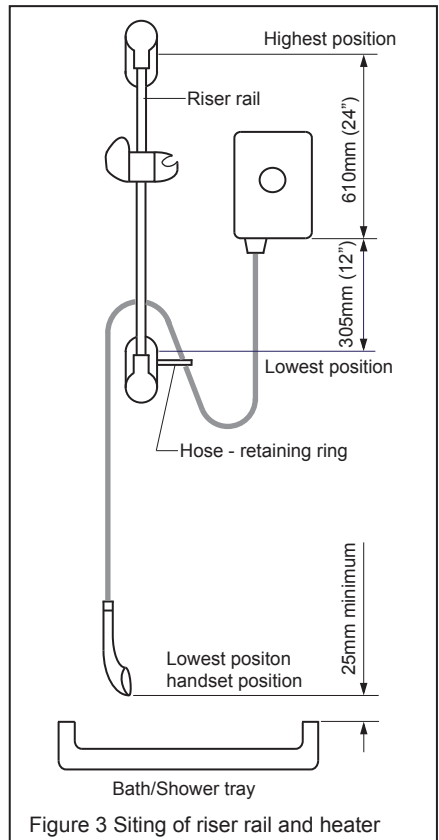

Figure 3 Siting of riser rail and heater
highest parked position, the handset is not more than 610mm above the bottom of the heater and in its lowest position it is no lower than 305mm -see Fig. 3.
1. Install a hose-restraining ring - see Fig. 3.